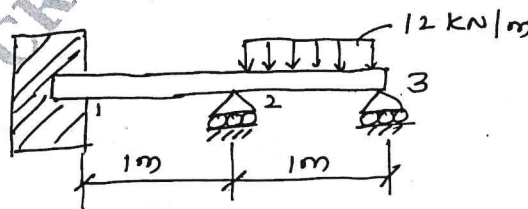

Fig Q7(b)
b. For the beam and loading as shown in Fig Q7 (b). Find out